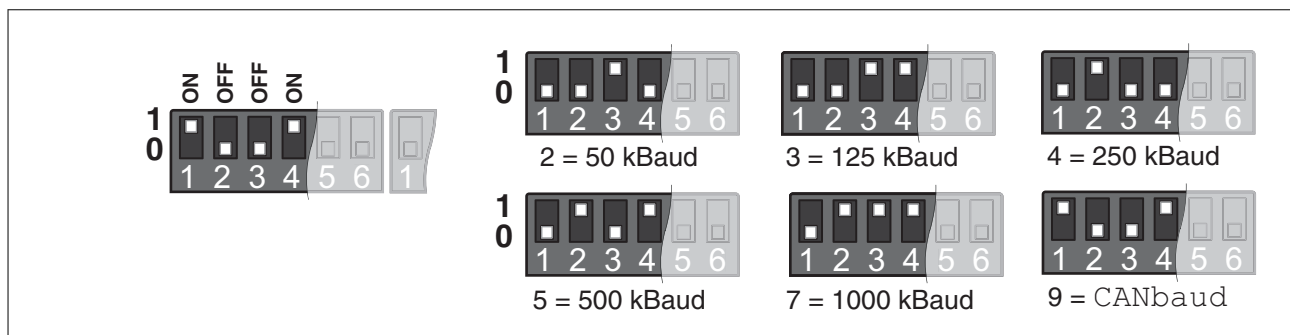

Figure 75: DIP switch baud rate
- Set the transmission rate via the DIP switches, see Figure 75.